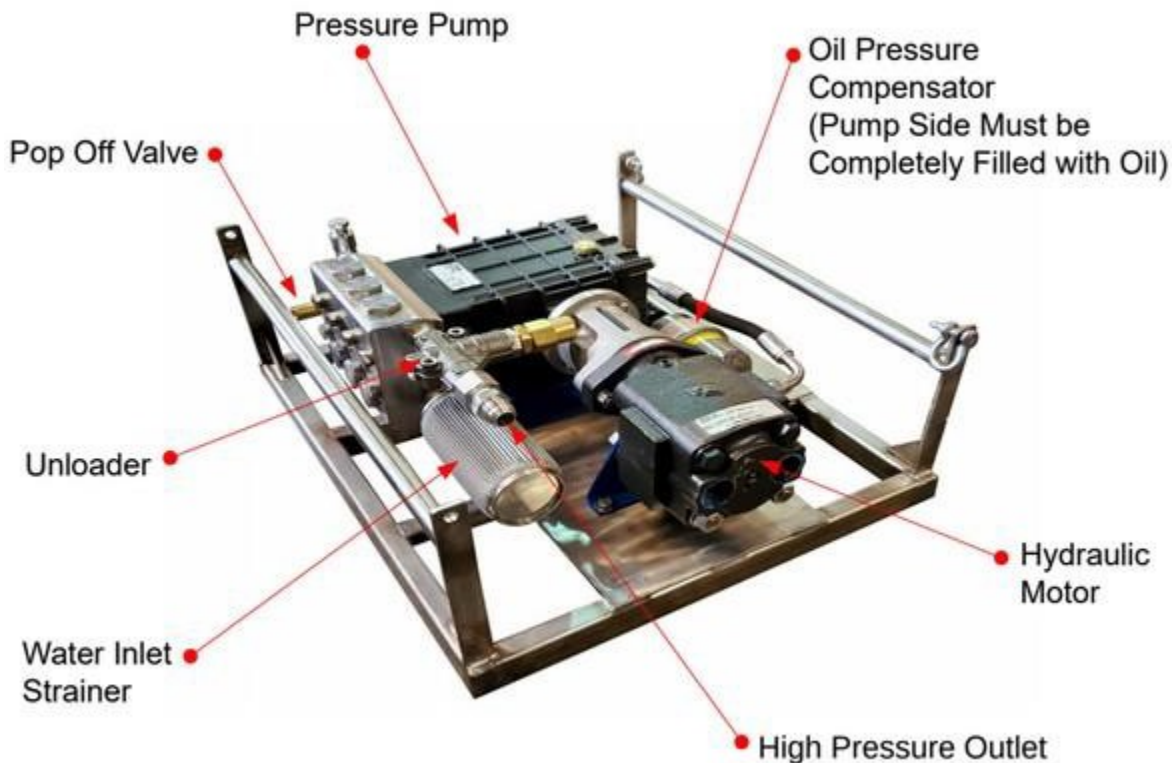

Figure 2.1 – CaviBlaster 1030-ROV General Features
After first receiving the CaviBlaster Power Unit, the following must be checked and completed: See **Figure 2.1** for item locations.
2. Inspect the water inlet strainer to ensure that it is not clogged (See Figure 2.1). Clean if necessary.